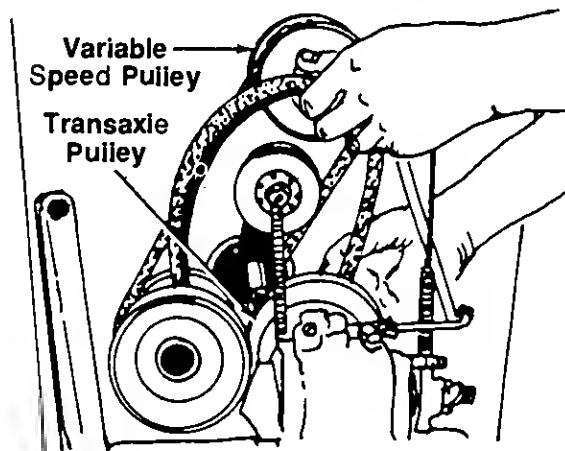

FIGURE 28.
6. Slip the "V"-belt off the variable speed pulley and transaxle pulley. See figure 28.